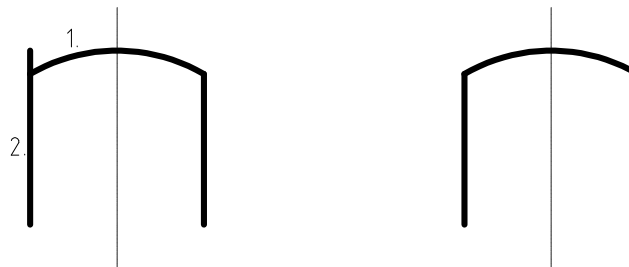

Figure 60: With the trim tool, the line at the left can be easily shortened to meet the arc.
Trims or extends a line or arc to meet another entity (Figure 60).
2. Choose the entities that you want to trim to the limiting entity. Often there are two possibilities for the entity to be trimmed. In Figure 60 you might want the top part of the line to stay and the lower part to disappear. In that case you would have to click the trim entity at the upper part. You always need to pick the part of the entity that you want to stay.